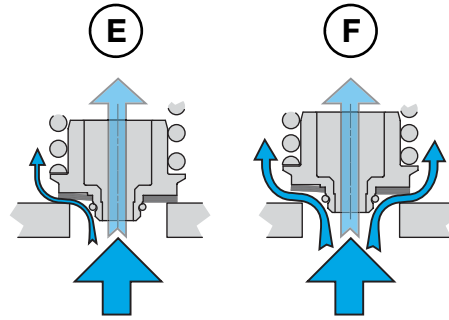

Figure 3.4 Poppet valve
- b) The second valve to open is normally the nose shim stack (*Figure 3.4-E and Figure 3.5-E*).
- c) If the pressure level reaches the opening pressure of the poppet valve, the poppet valve will open (*Figure 3.4-F and Figure 3.5-F*).